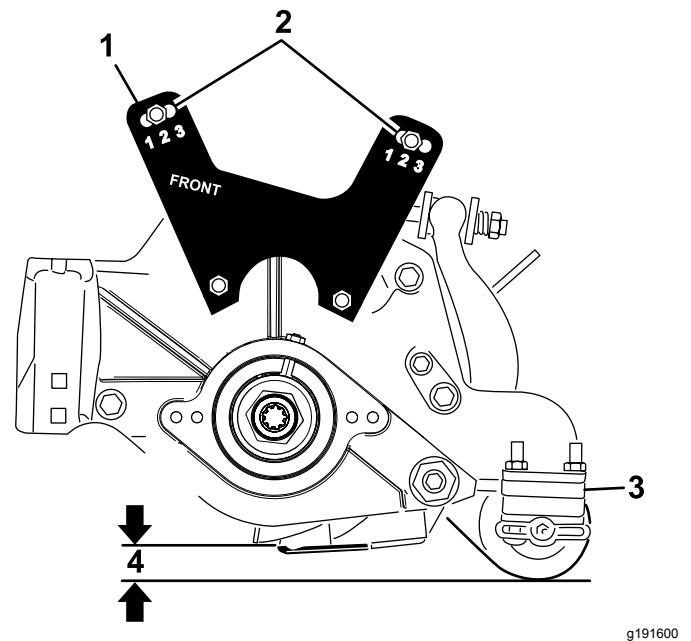

Figure 21
- Lower the cutting unit to the floor and measure the distance from the floor to the top of the bedknife, as shown in Figure 21.